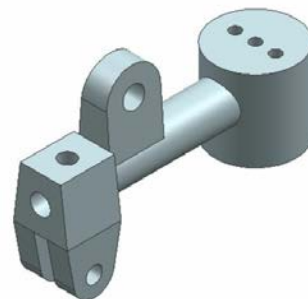

Figure 13-131 Model after creating holes
7. Choose the **OK** button to accept the changes. The resultant model after creating the two holes on the cylinder is shown in Figure 13-131.